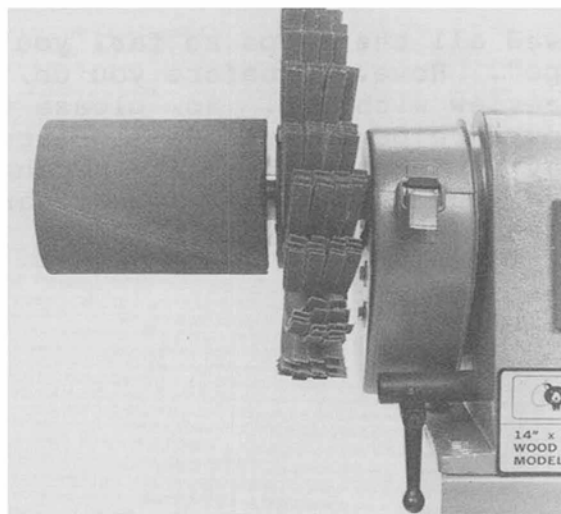

Figure 10 - shows sanding drum and flap sander in position.
4. The lever we use on our machines solves this problem by being, in essence, a two-part adjustment. As shown in Figure 10, 11, the operator pulls out on the shank of the lever, and simultaneously draws in on the adjustment screw within the lever. This screw is drawn in so that it is just starting to tighten up. Now, with the lever positioned in a convenient manner, as shown, table adjustment can be performed quickly and securely.